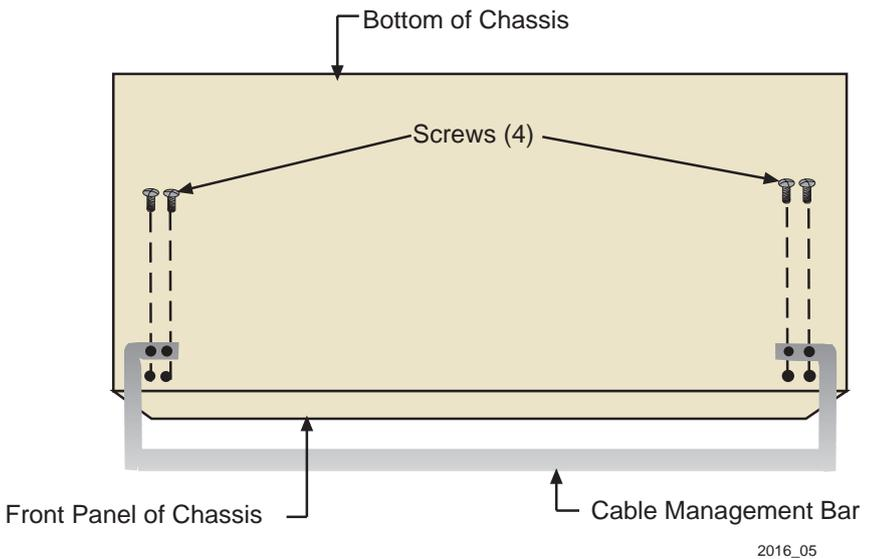

Figure 3-1 Installing the Cable Management Bar
2. Refer to Figure 3-1. Line up the two holes on each side of the cable management bar with the two holes located underneath the 6C105, near the front of the chassis.